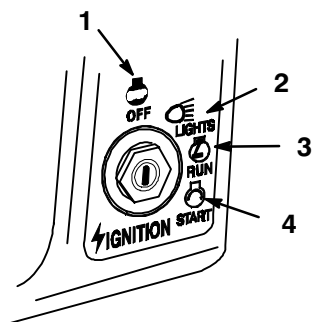

Figure 5
- Turn the ignition key and hold it in the “START” position (Fig. 5). When the engine starts, release the key.
- Turn the ignition key to “OFF” (Fig. 5).